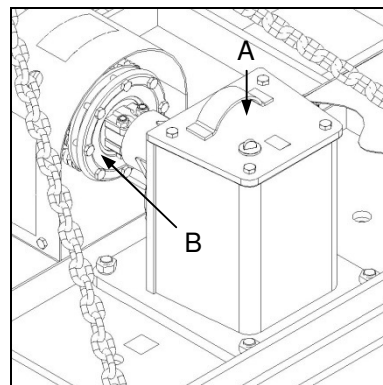

Fig. 5
- ✓ Discolouration or blistering of painted surfaces of the friction clutch housing (Fig. 5-B).
- ✓ The friction clutch housing feels significantly hotter than the surface of the gearbox casing (Fig. 5-A).
- ✓ Verkleuring of blaasvorming van geveerde oppervlakke van die wrywingkoppelaaromhulsel (Fig. 5-B).
- ✓ Die wrywingkoppelaaromhulsel voel beduidend warmer as die ratkasomhulsel (Fig. 5-A).